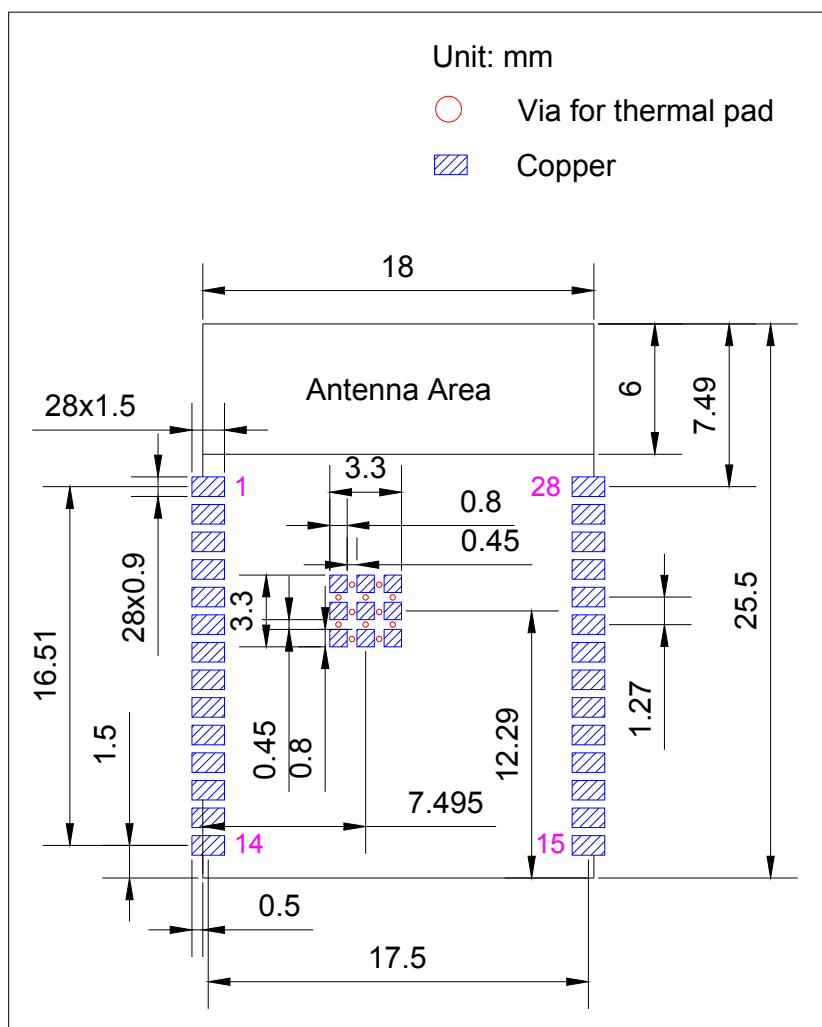
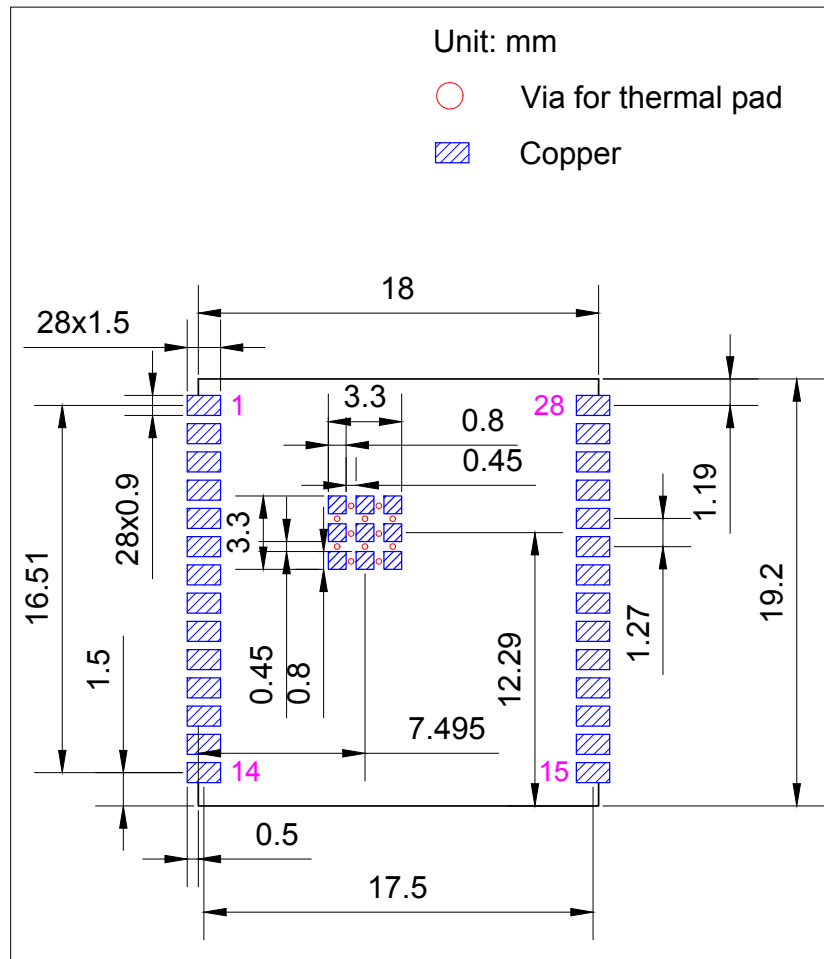

Figure 10: ESP32-C6-WROOM-1 Recommended PCB Land Pattern
Figure 11: ESP32-C6-WROOM-1U Recommended PCB Land Pattern
- Figures for recommended PCB land patterns with all the dimensions needed for PCB design. See Figure 10 *ESP32-C6-WROOM-1 Recommended PCB Land Pattern* and Figure 11 *ESP32-C6-WROOM-1U Recommended PCB Land Pattern*.
- Source files of recommended PCB land patterns to measure dimensions not covered in Figure 10 and Figure 11. You can view the source files for ESP32-C6-WROOM-1 and ESP32-C6-WROOM-1U with Autodesk Viewer.